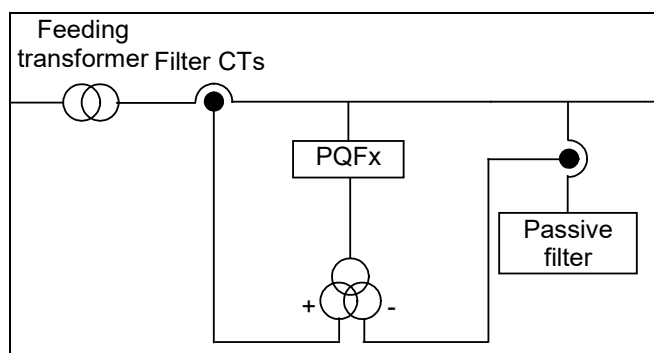

Figure 82: CT connection guidelines for the case that a passive filter is installed downstream of the active filter
- In installations where active filters and passive filters are present, the active filters must be installed downstream of the passive filter. If this is not possible, the CT connection scheme of **Figure 82** shall be used.